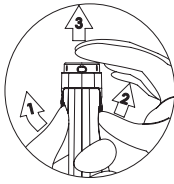

Fig. 1: Removing battery cover
- 1. To remove the battery cover, see Figure 1. Clear the front catch and then the back catch, before sliding the cover off.